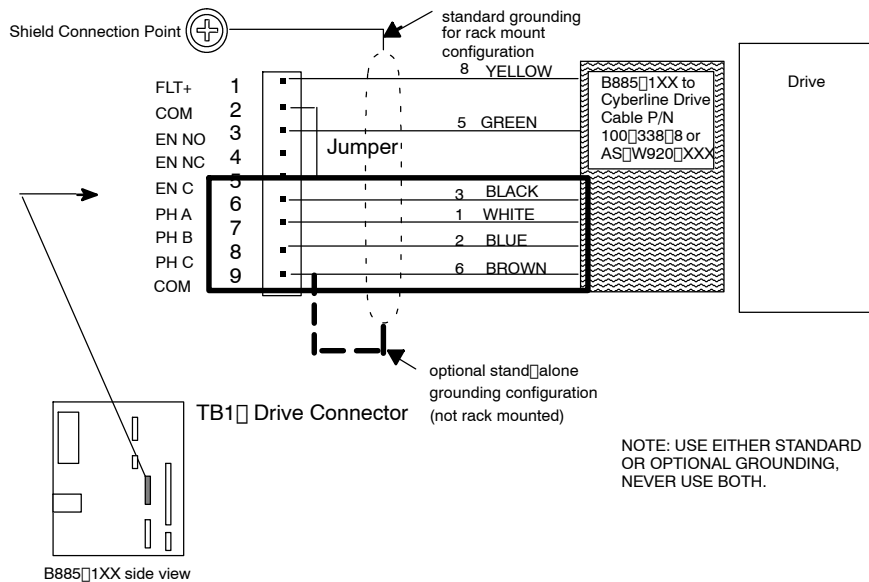

Figure 33 Current Command Test Points on the B885-1XX
Step 2 With an ac voltmeter, measure the torque command outputs from the B885-1XX at TB1. These measurements are with respect to the common line, TB1-9. Refer to Figure 33.